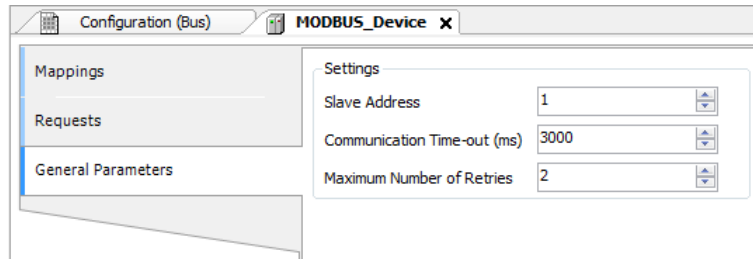

Figure 54: Device General Parameters Settings
- Add and configure devices via the General Parameters tab, defining the slave address, communication time-out and number of communication retries as can be seen in Figure 54.